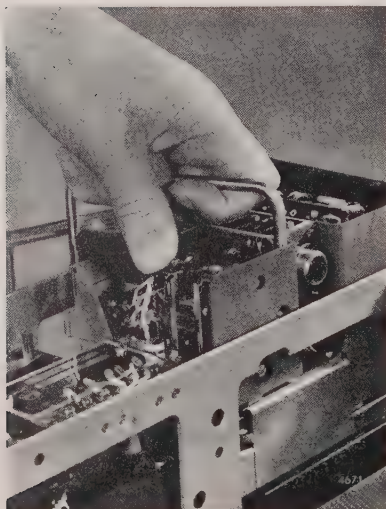

Fig. 8. Fitting the amplifier in the frame
1. Lower the amplifier perpendicularly, see Fig. 8.